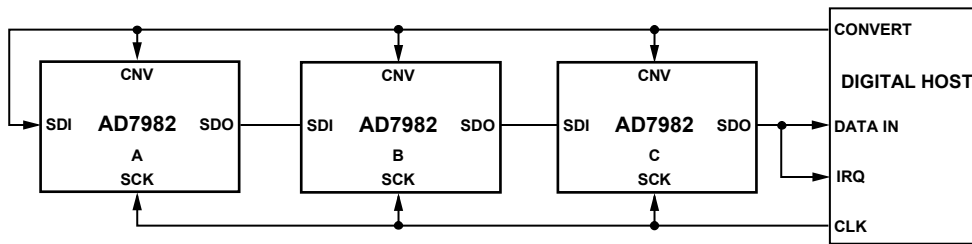
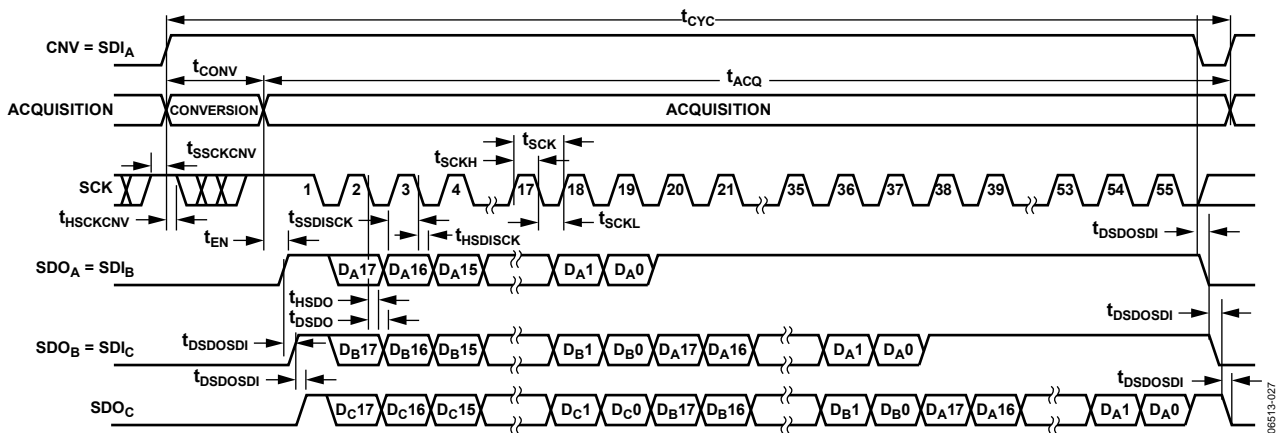

Figure 39. Chain Mode with Busy Indicator Connection Diagram
Figure 40. Chain Mode with Busy Indicator Serial Interface Timing
- In the chain mode if SCK is high during the CNV rising edge (see Figure 40).
A connection diagram example using three AD7982s is shown in Figure 39, and the corresponding timing is given in Figure 40.
subsequent data readback. When all ADCs in the chain have completed their conversions, the SDO pin of the ADC closest to the digital host (see the AD7982 ADC labeled C in Figure 39) is driven high. This transition on SDO can be used as a busy indicator to trigger the data readback controlled by the digital host. The AD7982 then enters the acquisition phase and powers down. The data bits stored in the internal shift register are clocked out, MSB first, by subsequent SCK falling edges. For each ADC, SDI feeds the input of the internal shift register and is clocked by the SCK falling edge. Each ADC in the chain outputs its data MSB first, and  $18 \times N + 1$  clocks are required to read back the N ADCs. Although the rising edge can be used to capture the data, a digital host using the SCK falling edge allows a faster reading rate and consequently more AD7982s in the chain, provided the digital host has an acceptable hold time.